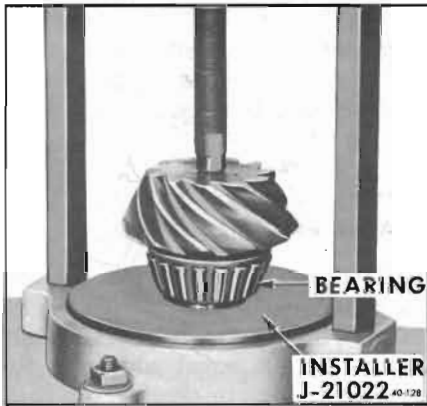

Figure 40-128—Installing Rear Pinion Bearing
13. Position correct shim on pinion shaft and install rear pinion bearing. Use Installer J-21022 as shown in Figure 40-128.